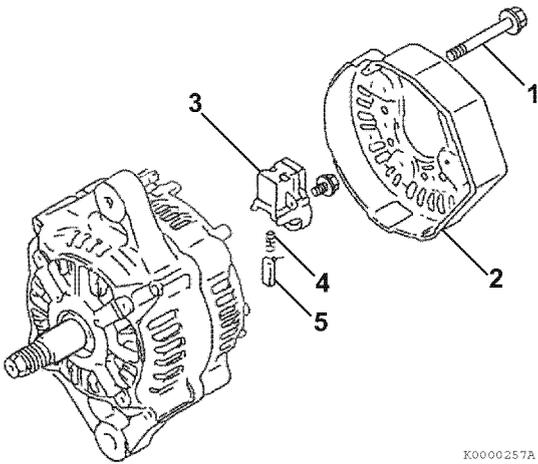

Figure 12-18
8. Reinstall the brush holder (**Figure 12-18, (3)**), springs (**Figure 12-18, (4)**) and brushes (**Figure 12-18, (5)**).
10. Reinstall the rear cover (2, Figure 12-18) to the rear frame housing with three bolts (1, Figure 12-18).